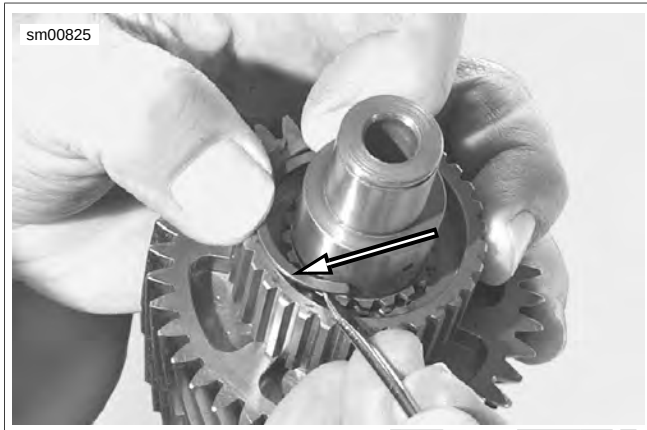

Figure 6-122. Half Moon Keepers
6. See Figure 6-122. Remove the half moon keepers.